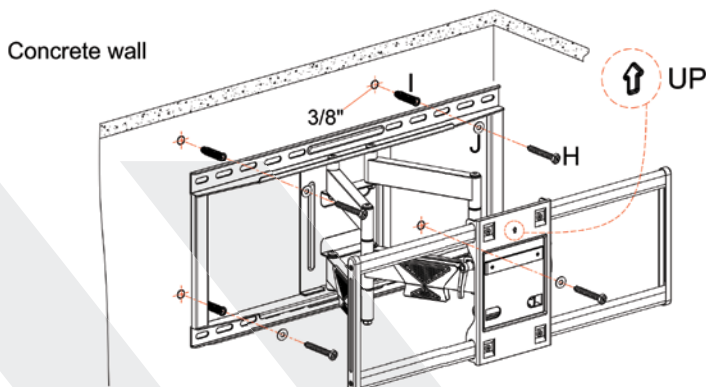

Figure 1 (keep the wall plate level)
- Fix the wall plate by using the lag bolt screws (H) and washers (J) (Figure 1)